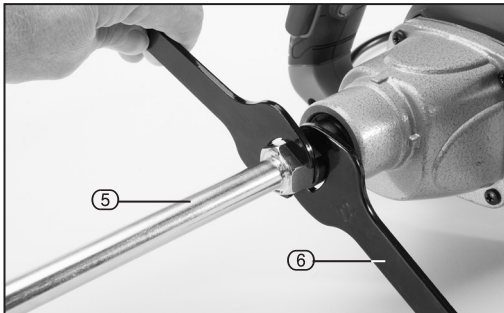

FIG. 1
6.1 PADDLE INSTALLATION – FIG. 1